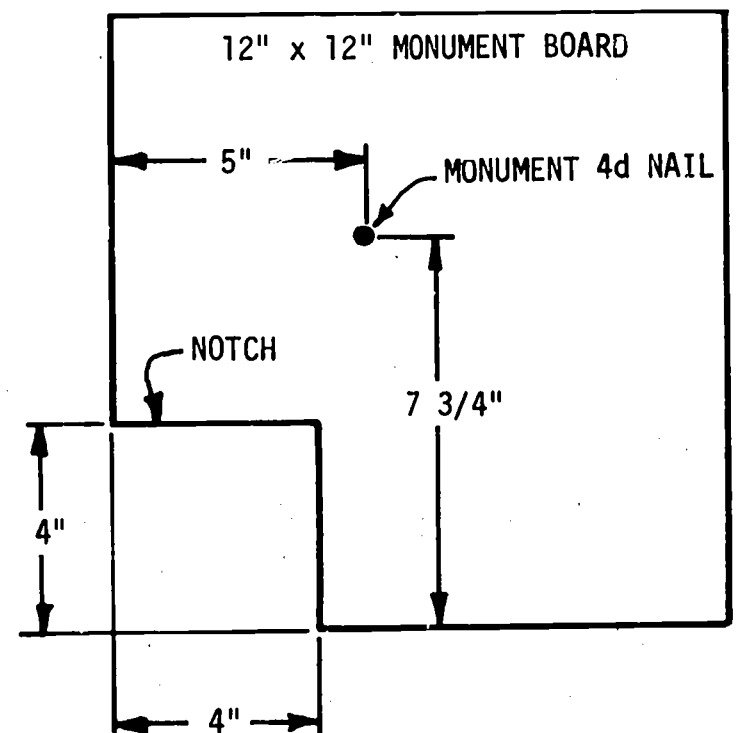

Fig. 12-1. Location of Monument Marker on Monument Site Board
- *The instructor should precut one piece for each group and attach the marker as shown in Fig. 12-1.